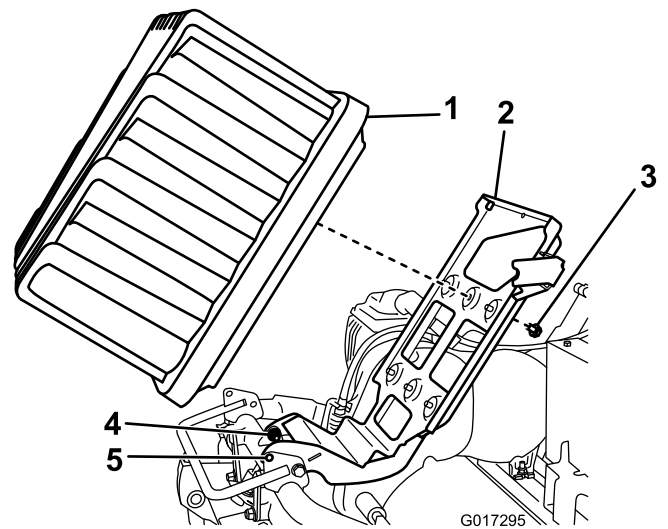

Figure 9
5. Loosen the 2 pivot bolts/nuts a half turn each (Figure 9).
6. Raise the battery platform until the locking holes in the base and frame align (Figure 9). Slide a screw driver or other steel rod through the holes to hold the platform in the raised position.